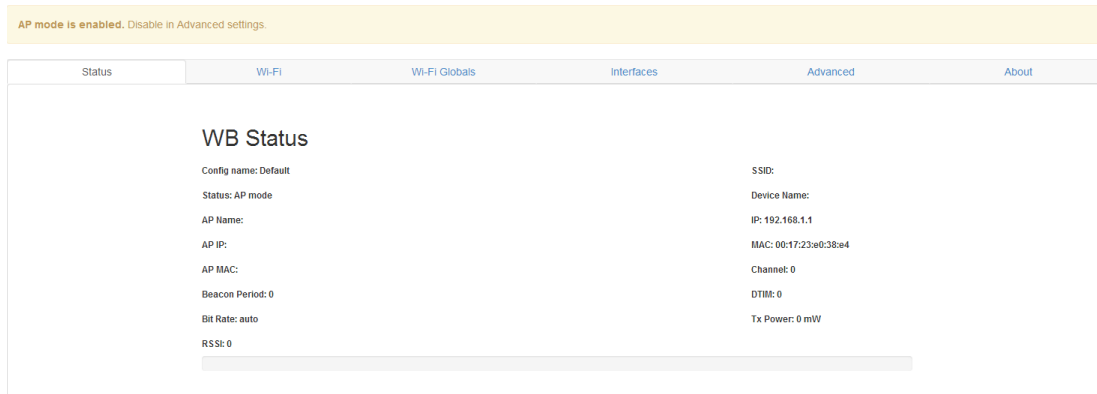

Figure 6: The WebLCM Status tab
4. Log in to the web server. The user name is **root** and password is **summit**. When you log in, you are directed to WebLCM's **Status** tab as shown in Figure 6.